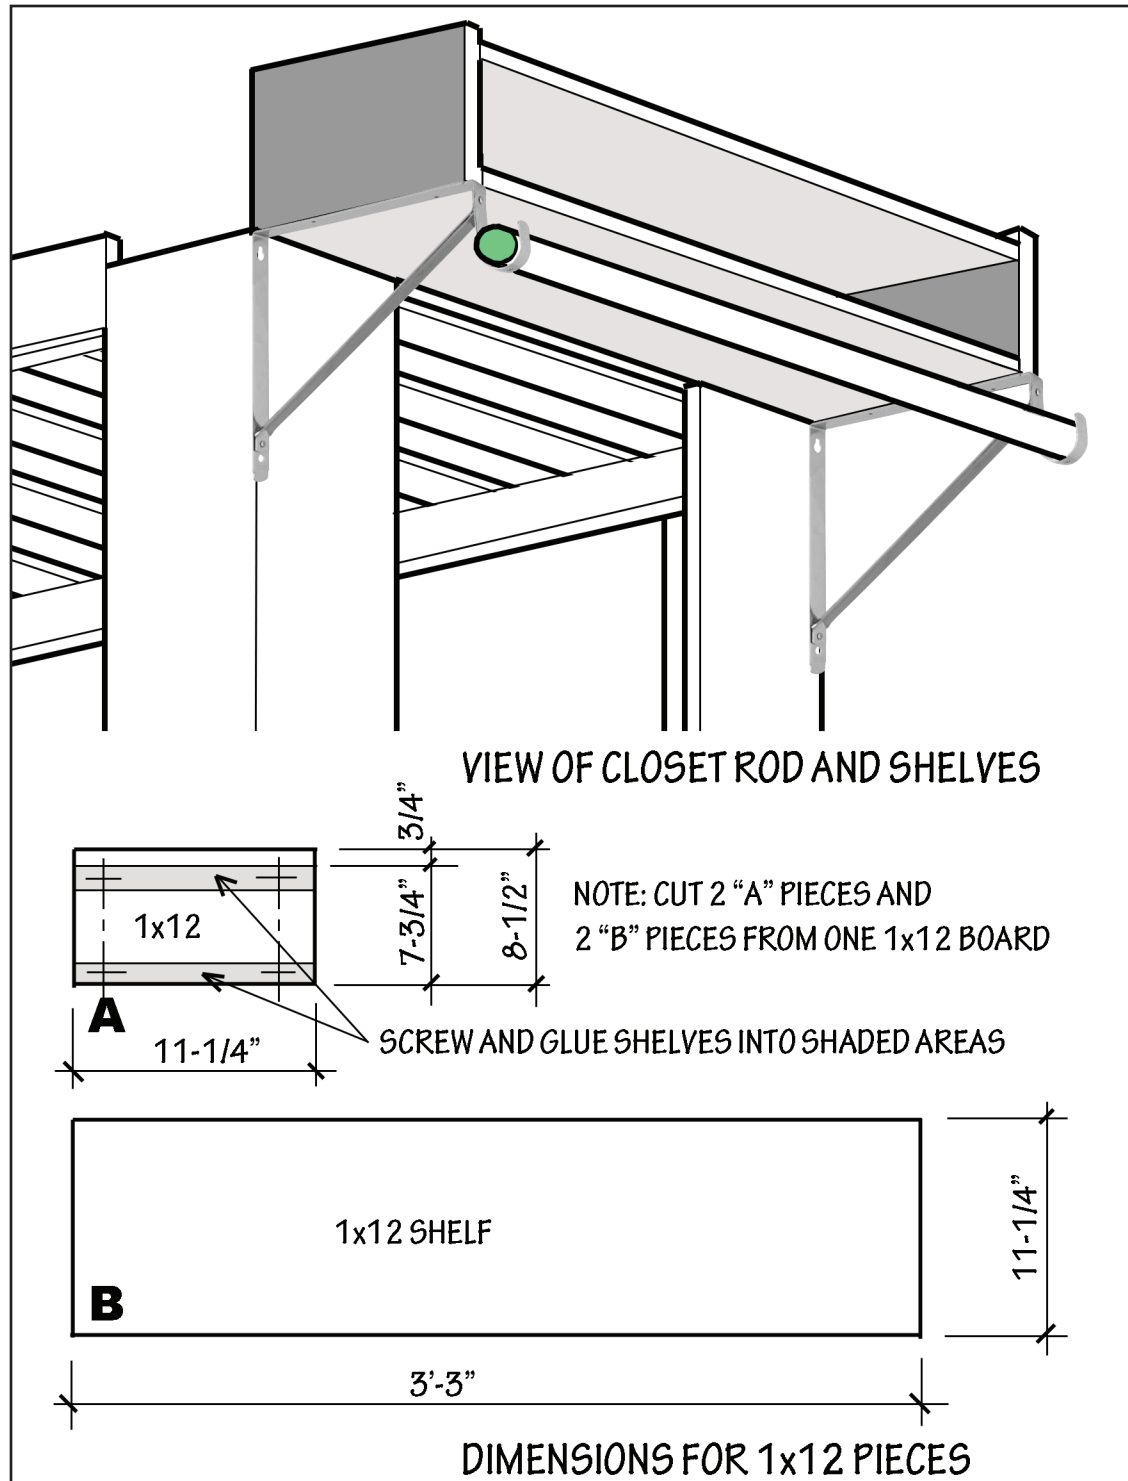

Figure 7. Optional closet rod brackets can support shelves and a closet rod.
7. There's only one more (optional) item to build and install: a closet rod and shelving unit that can be attached with standard closet rod brackets to the corner posts, as shown in Figure 7. Fasten the brackets to the top of the corner posts with a packet of the "premium" bracket screws (don't use the smaller screws that are sold for this purpose).